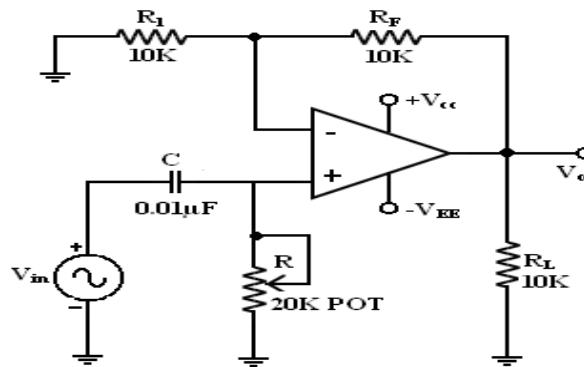

Figure11.2 Circuit diagram of first order high pass butterworth filter
2. Connect the circuit as per the circuit diagram shown in fig 11.2.